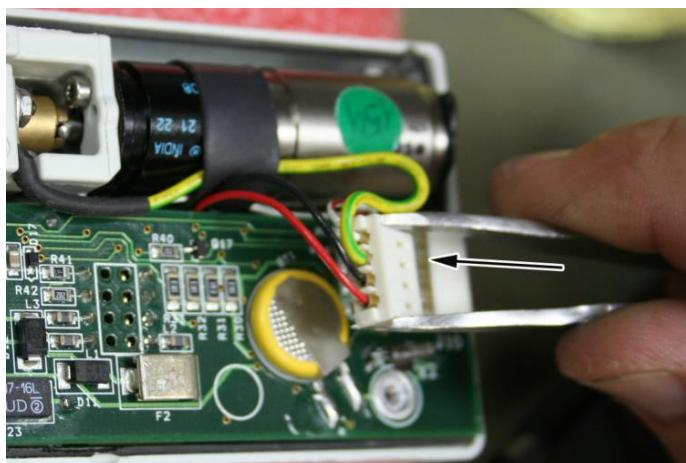

Figure 6-24. Disconnecting the Motor Encoder Connector
- d. Connect the motor encoder connector. See Figure 6-24.